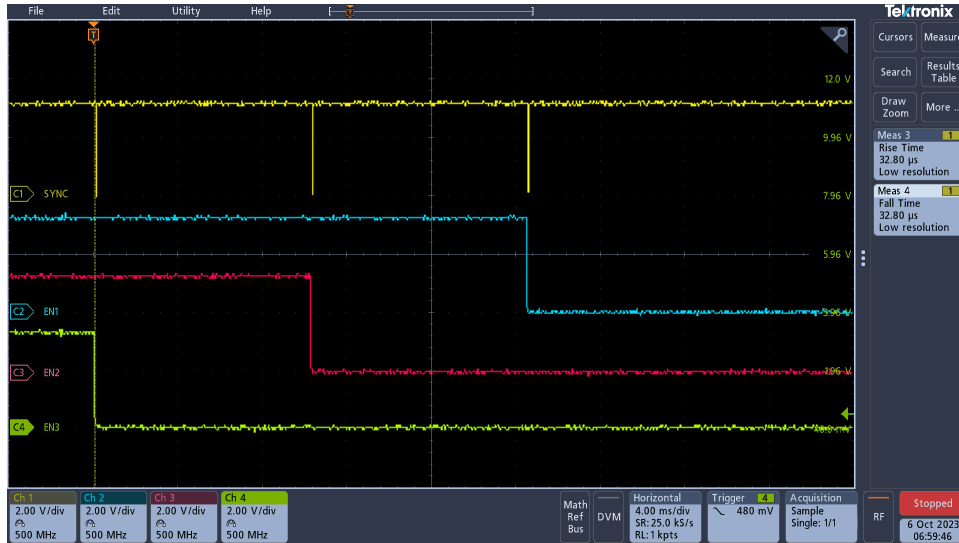

Figure 4-6. Power Sequence Down with Sync
- e. Figure 4-6 shows correct operation of the first three enable signals in the power down sequence and the corresponding sync pulses from the TPS389006.